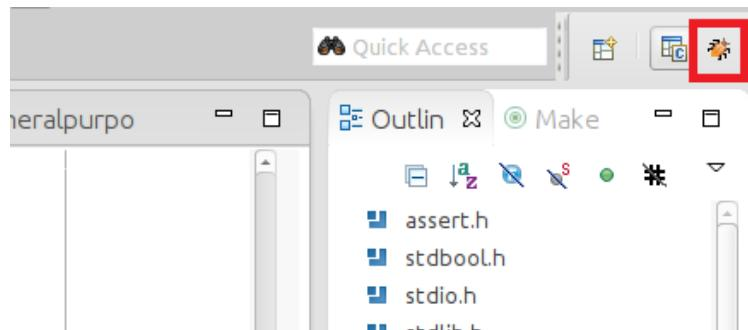

Figure 12-12. Switching to the DS-5 Debug Perspective
20. Switch to the DS-5 Debug perspective, as shown in Figure 12-12.